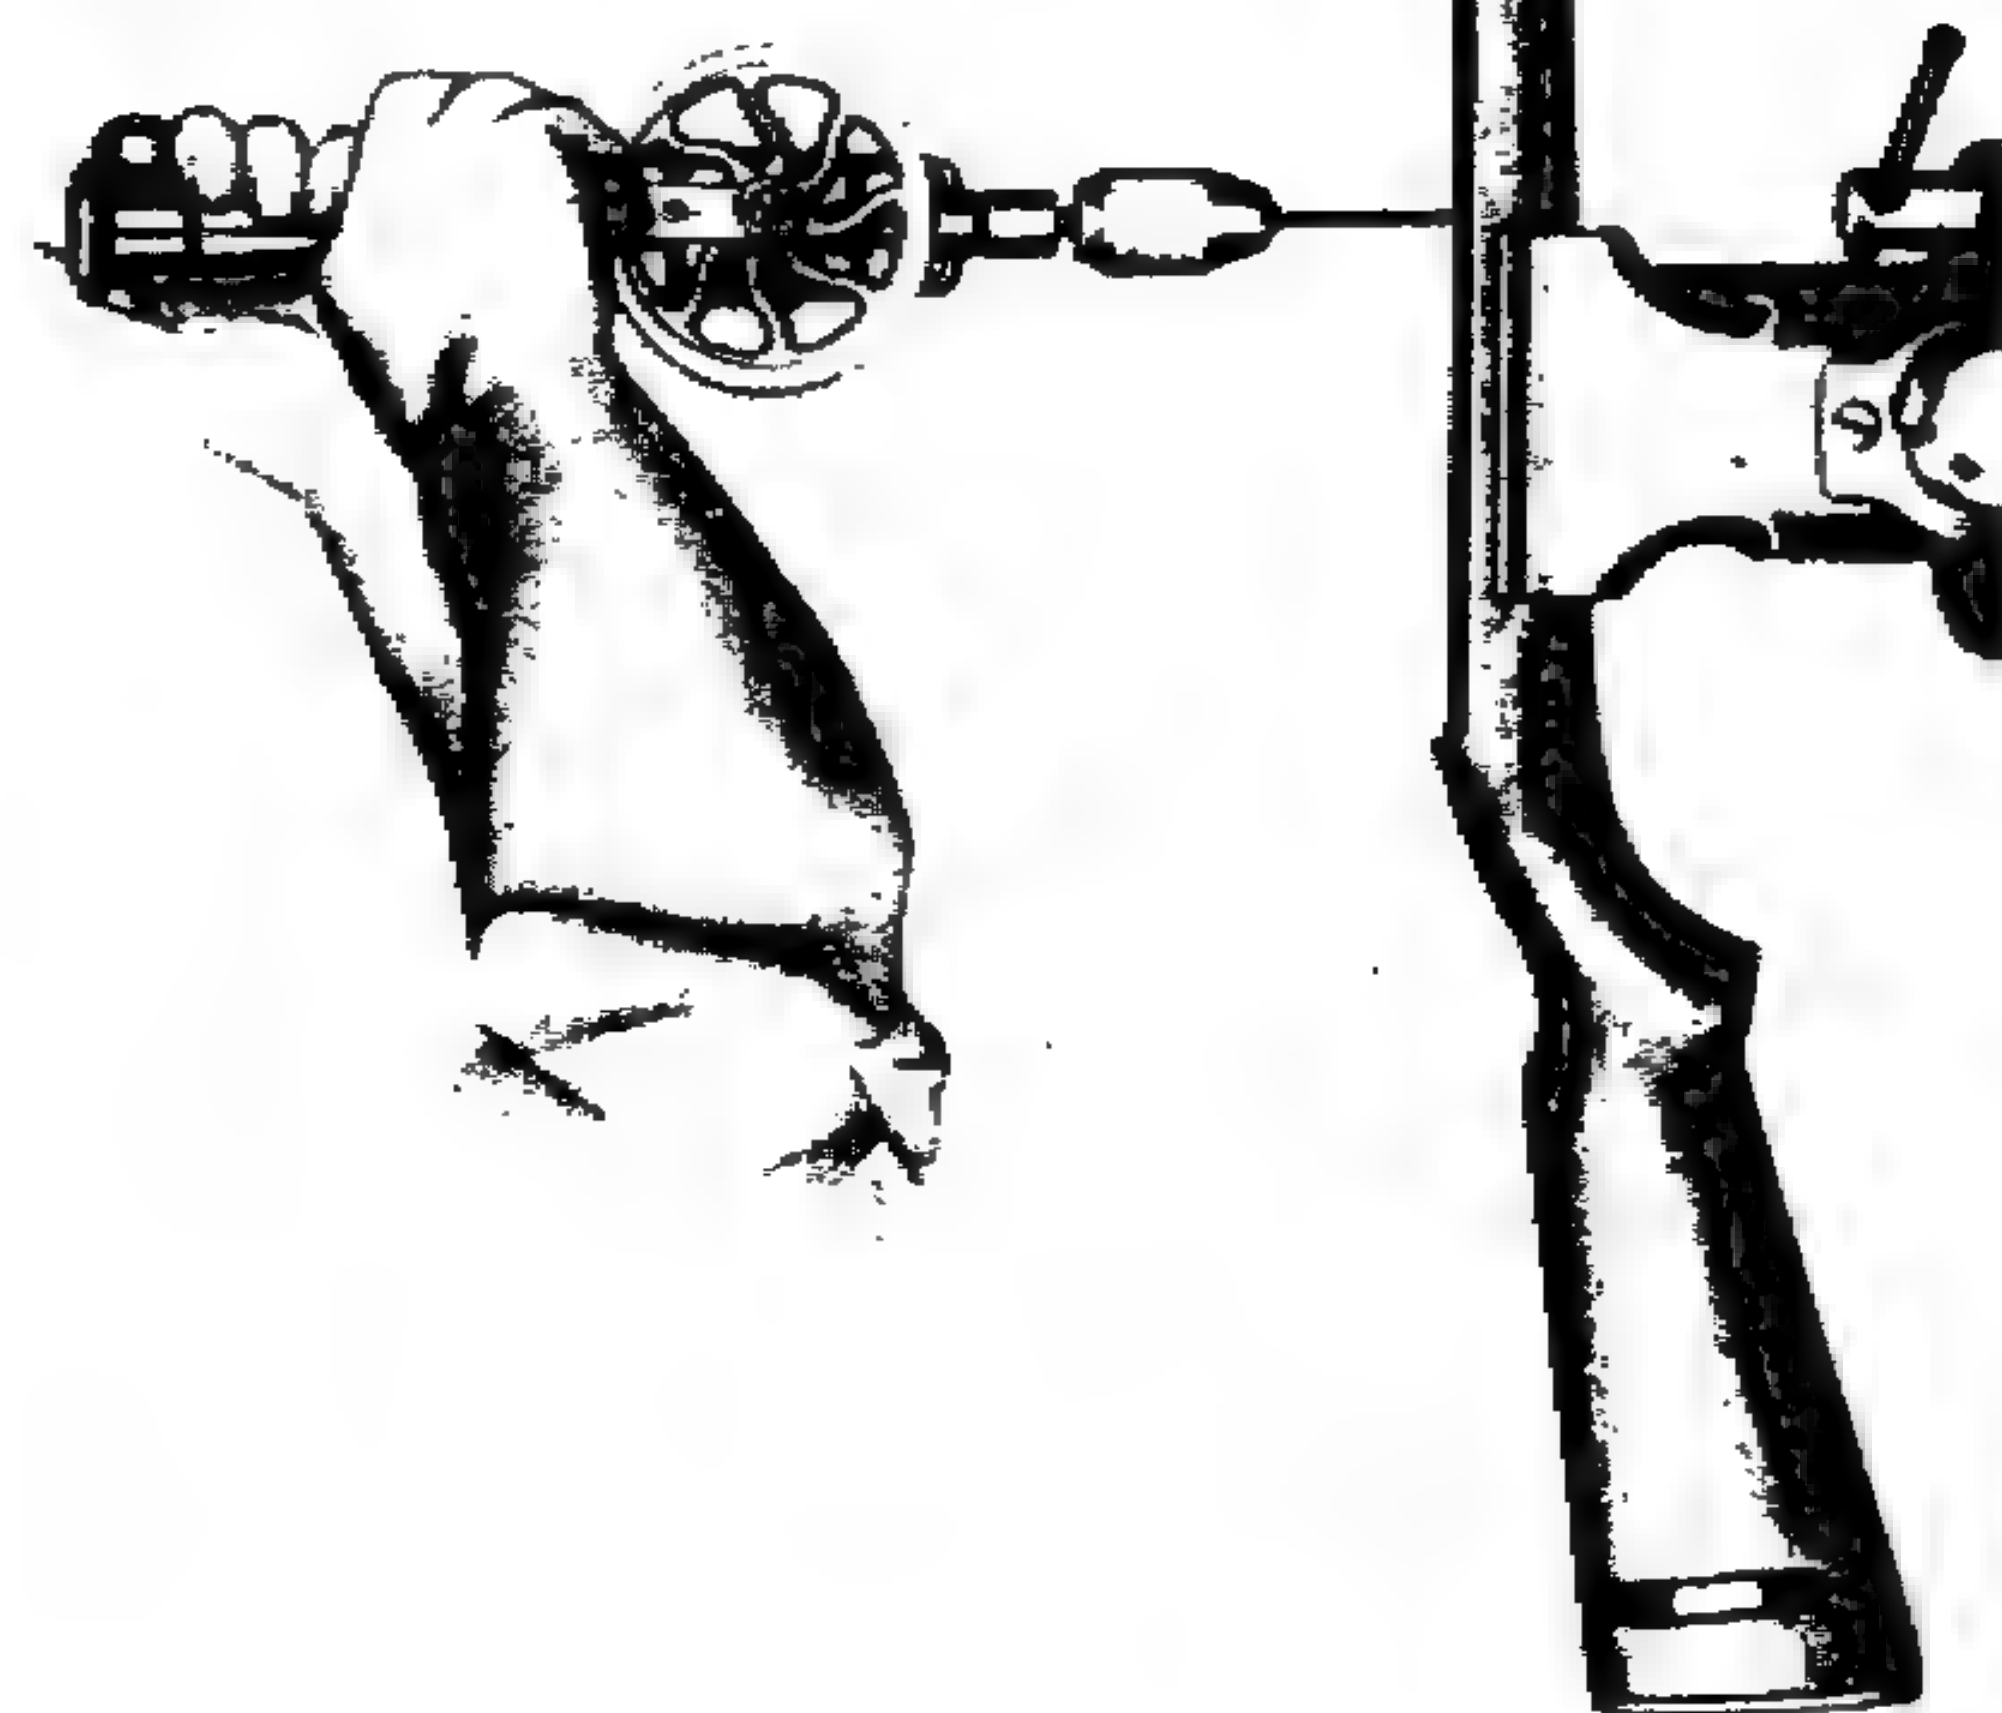

Figure 102. Installing repair screw.
- (1) *Dents.* Sand out dents or mutilations that do not affect strength or general appearance; use wood dough if practicable.
- (2) *Cracks.* Components which are cracked in such a manner that strength is affected must be replaced. Where the strength is not affected, use repair screw A233523, or similar screw machined from brass to reinforce weak areas and small cracks. Drill an 0.081-inch hole to receive screw (fig. 102). Install screw by gripping it in chuck of a hand drill. Cut off screw and file flush with stock so that no edges protrude. Wherever possible dovetail patches in. In figure 101, the